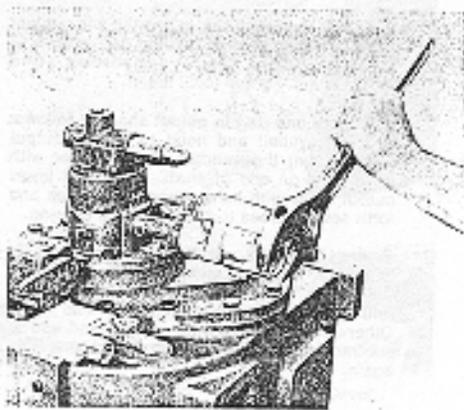

Figure 48. Installing Oil Filter Head.
7. Install pipe nipple and oil filter. See fig 48. Use pipe joint compound on all threaded fittings. BE SURE FLOW ARROW ON FILTER POINTS TOWARD OIL PUMP OTHERWISE SEVERE DAMAGE MAY RESULT.